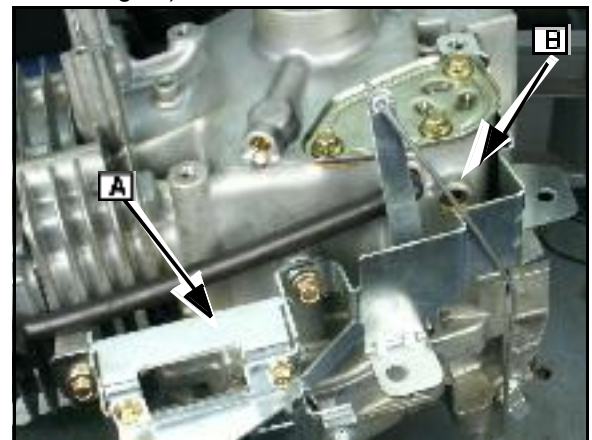

Fig. 25
4. With the governor lever in position, loosely install both control brackets ([A & B] Fig. 25).